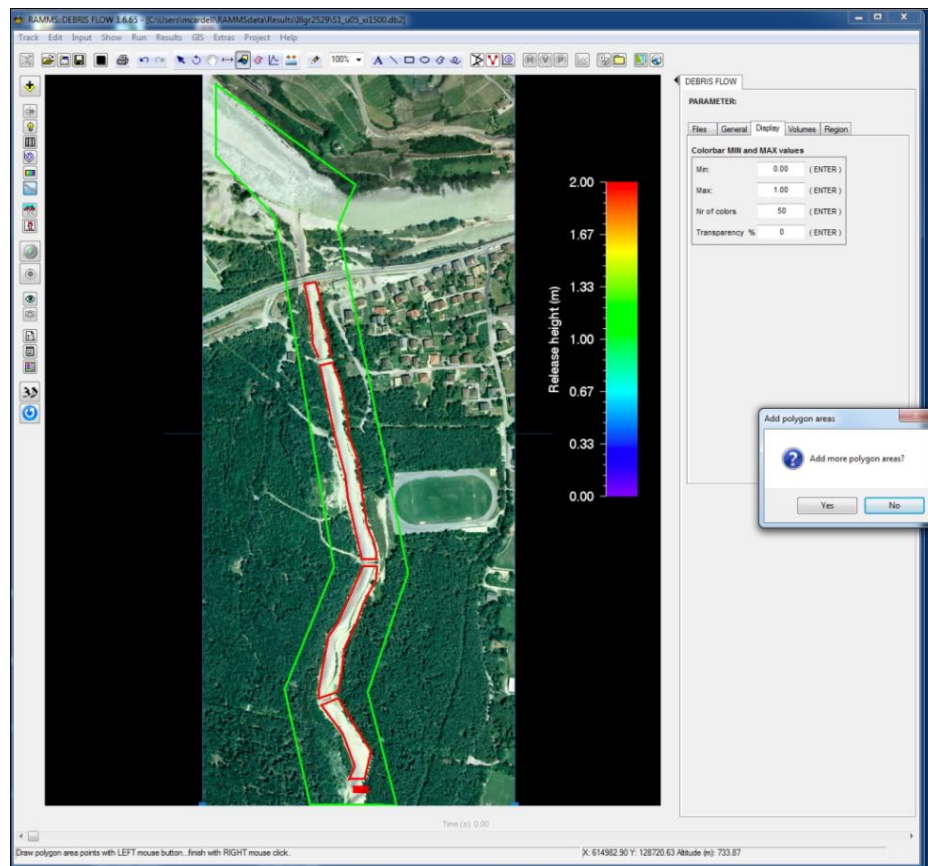
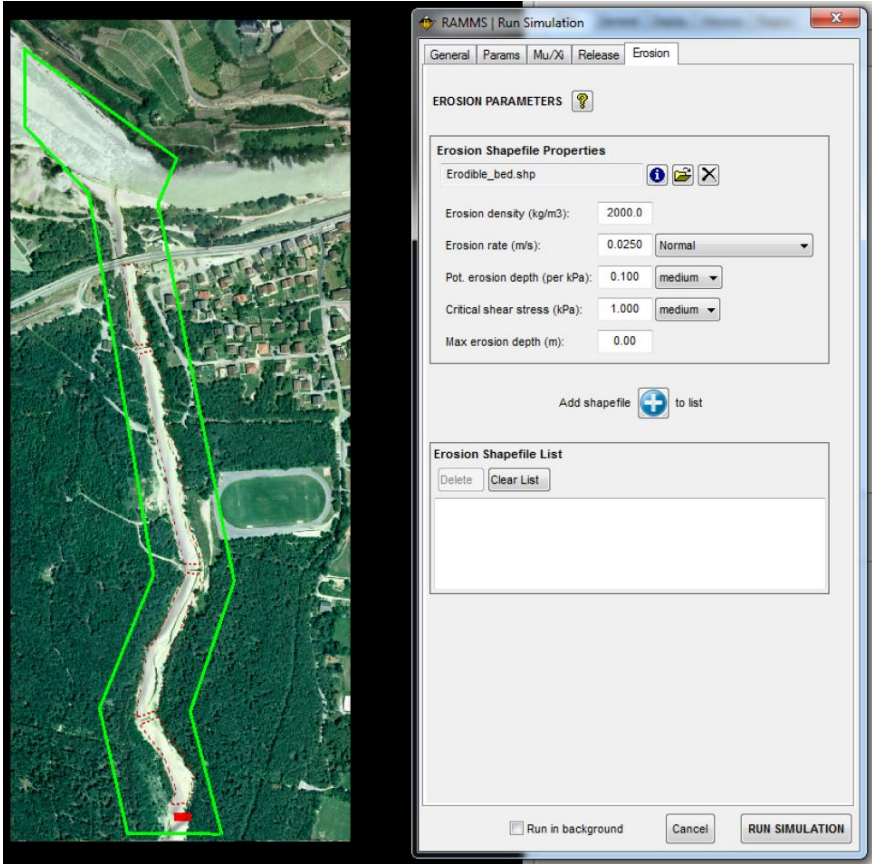
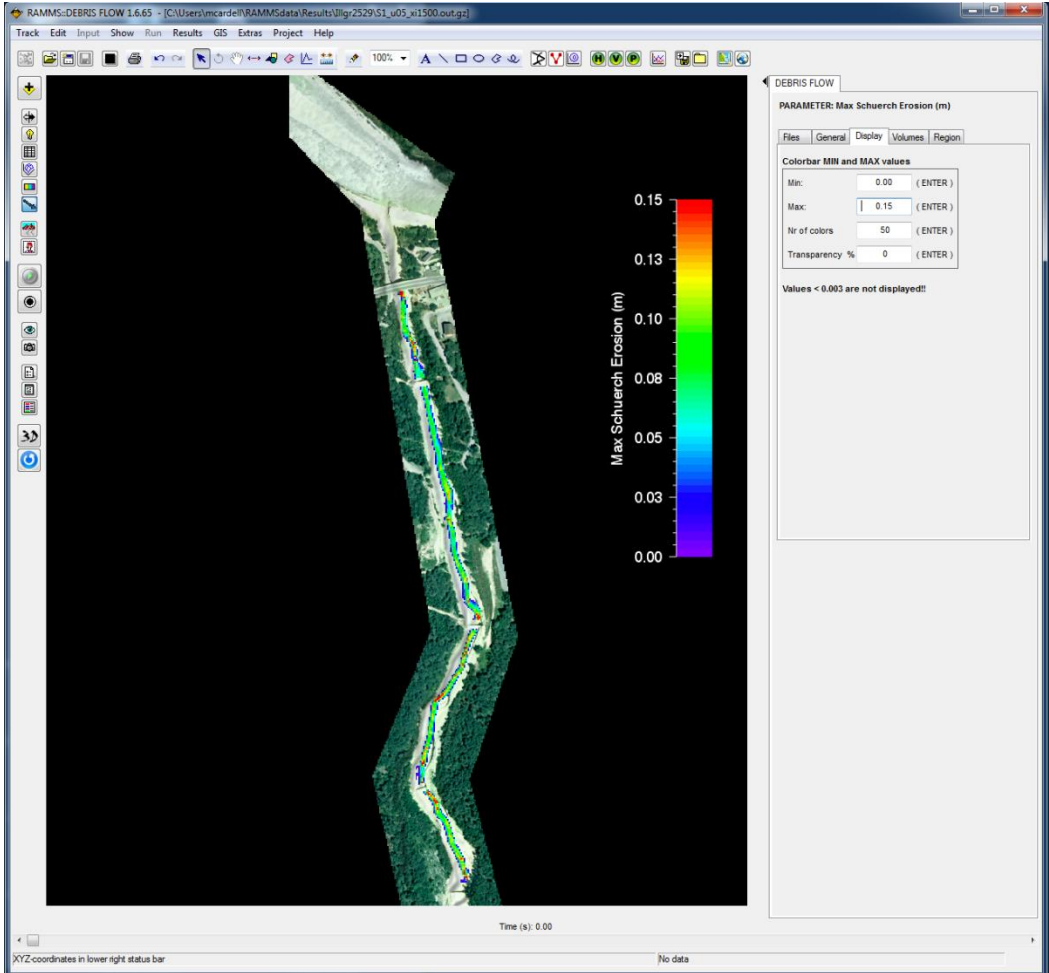

Figure 5-4: Adding erosion polygon areas.
Figure 5-5: Erosion parameters.
Figure 5-6: Simulated channel-bed erosion.
Step 2: Define where erosion can take place. Select the menu option **Input** → **Polygon shapefile** → **Draw New Polygon Shapefile** and draw the first polygon. After closing the first polygon with a right-mouse-click, choose the option **Add polygon areas**, and repeat this procedure until all desired polygons have been drawn. After adding the final polygon (in this case the fourth one) click on the “No” button and name the polygon (Figure 5-4). Once this step is completed, the erosion properties within this shapefile can be set in a different dialog box (Step 3, Figure 5-5). Although not illustrated here, it is possible to create multiple shape files with different erosion parameters within each shape file.
Step 3: Set erosion parameters. To set the erosion parameters used during the simulation, select **Run** simulation and then click on the **Erosion** tab. Click on the folder icon and select the polygon shapefile (in this case *erodible_bed.shp*, Figure 5-5). After selecting the erosion parameters, click on the button **Add shapefile to list**. The shapefile and values are added to the list. You can delete the whole list, or remove single entries from the list. It's not possible to edit an entry (remove the entry, and create a new entry).
The predicted channel-bed erosion for this case is illustrated in Figure 5-6. Here one can clearly see (in comparison with Figure 5-4) that erosion has taken place only within the user-specified polygons within the erosion shape file, and not on the check dams separating the individual polygons.